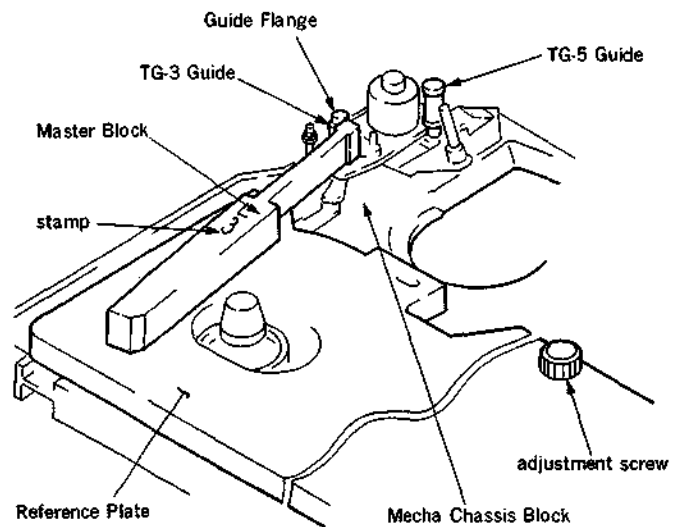

Fig. 3
- (1) Press the PLAY button on the remote controller for the threading completion mode. (See sub-section 4-1-3.)
- (2) Clean the mounting face of the reference plate and the four mounting points on the chassis with cleaning fluid.
- (3) Install the reference plate on the chassis. (Fig. 3)
- (4) Clean the top of the reference plate and the adjustment face of the master block with cleaning fluid.
- (5) Set the master block with the stamped L3 face upward, then place it against the TG-3 guide from the direction shown in the drawing, and confirm that the height of the lower flange satisfies the specification. (Figs. 3 and 4)